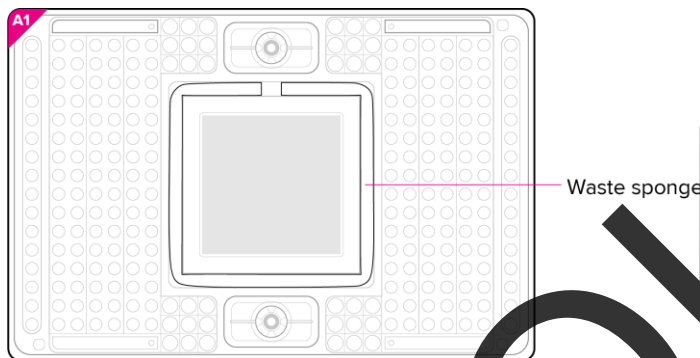

Figure 4. Waste sponge
- Do not remove the waste sponge from around the IFC center (see Figure 4).